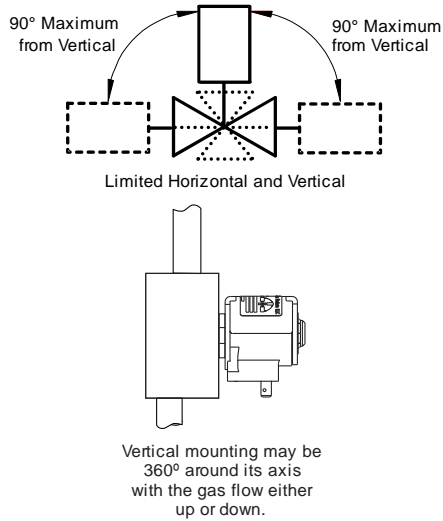

Figure 1: BGA Series Mounting Positions
6. The BGA Series valve may be mounted on a horizontal manifold with the solenoid coils pointed up (vertical) or in any position not exceeding 90° from the vertical. The valve may also be mounted on a vertical manifold in any position around its axis (see Figure 1). **Do not** install the solenoid coil upside down. Install horizontally wherever possible.